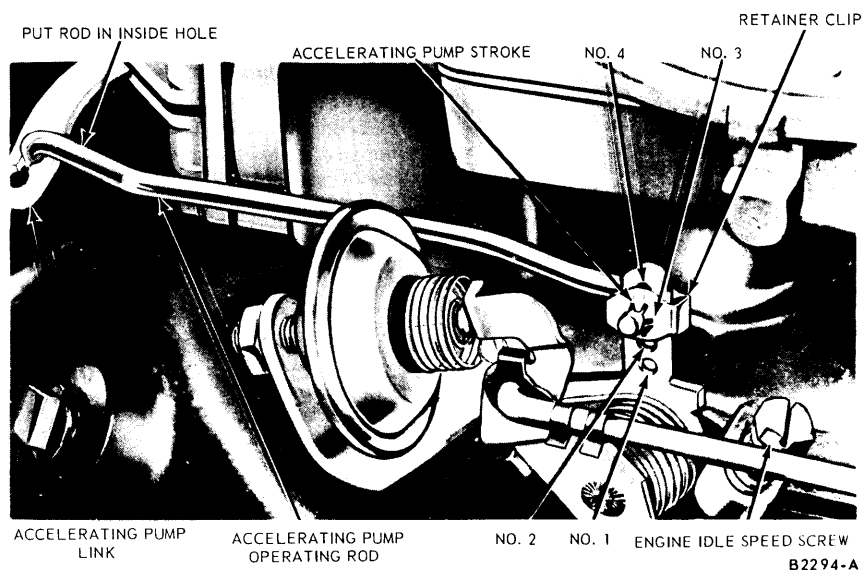

FIG. 11—Accelerating Pump Stroke and Engine Idle Speed Adjustment Points
4. Adjust the engine idle speed to specifications (Part 10-6) by turning the engine idle speed screw inward to increase the speed or outward to decrease the speed (Fig. 11).
5. Turn each idle mixture needle inward until engine rpm begins to drop, due to the lean mixture (Fig. 11); then turn each needle outward until the rpm increases and then begins to drop, due to the rich mixture, then turn the needles inward for maximum engine rpm and smoothness. The needles should be turned approximately the same amount. The final setting may vary about $\frac{1}{2}$ turn difference between needles.
The primary throttle shaft lever (overtravel lever) has 4 holes and the accelerating pump link has 2 holes (Fig. 11) to control the accelerating pump stroke for various ambient temperatures and operating conditions of the engine.
The accelerating pump operating rod should be in the specified (Part 10-6) hole in the overtravel lever and the inboard hole (hole closest to the pump plunger) in the accelerating pump link (Fig. 11). To release the rod from the retainer clip, press the tab end of the clip toward the rod; then, at the same time, press the rod away from the clip until it is disengaged.